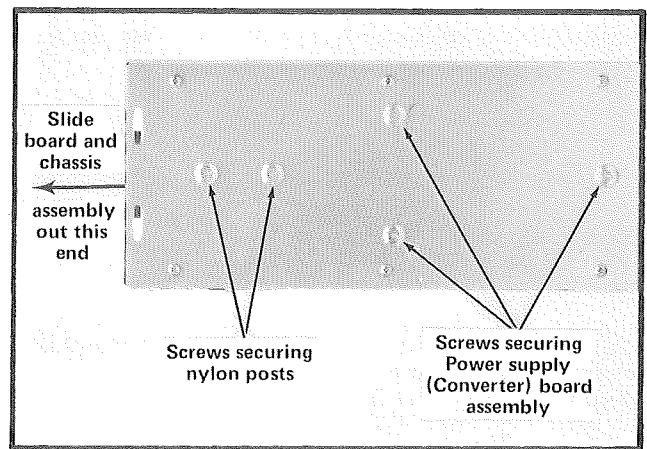

Fig. 4-2. Removing Converter board.
2. Remove the two machine screws (Fig. 4-2) securing the nylon posts. Remove the posts.
3. Remove the three machine screws (Fig. 4-2) and slide the converter board out through the open end of the battery compartment.